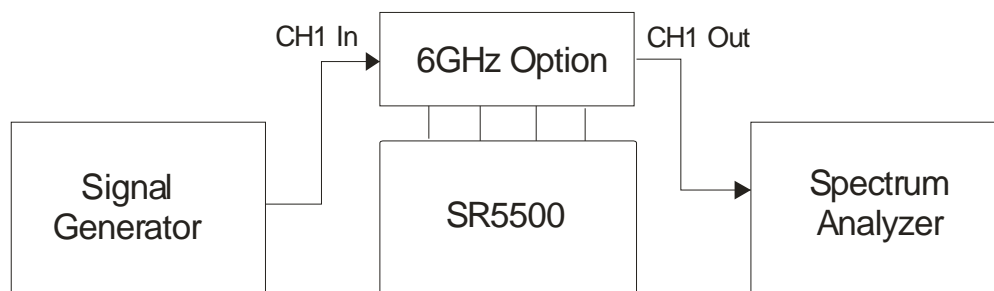

Figure 1-10: SR5500 with 6GHz (-EX) Option Verification Setup
OPTIONAL: Use the table and block diagram shown in Figure 1-10 to connect the equipment to a SR5500 equipped with the 6 GHz(EX) RF Converter.